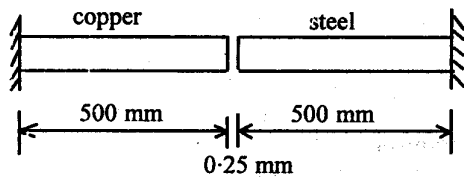

Fig. 6
- (b) In Fig. 6, the bar on left is copper and that on right is steel. The diameter of each bar is 60 mm. The gap between the bars is 0.25 mm. Determine the (i) total force on each bar, if temperature is raised by 40°C, and (ii) deformation in each bar. The distance between the supports remains unchanged.